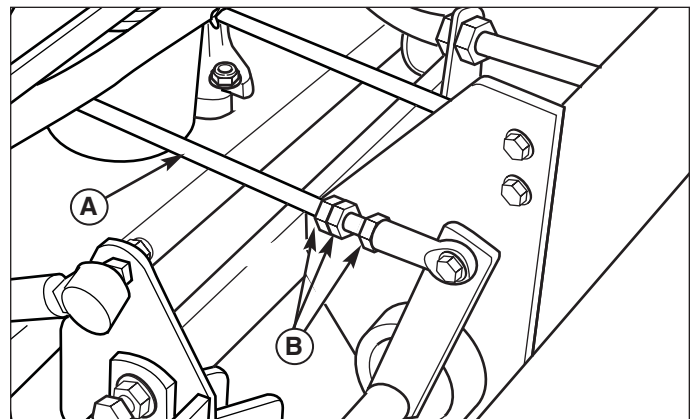

Figure 31. Neutral Adjustment (RH side shown)
2. There are three nuts (B, Figure 31) on the linkage rod. The first two are to be used together to turn the rod and the third (towards the front of the machine) is used to lock the rod in place. Loosen the jam nut that locks against the ball joint (B) and turn the linkage rod (A) to adjust. If the machine creeps forward, turn the rod CLOCKWISE (while standing at the rear of the machine, facing forward), if the machine creeps backward, turn the rod COUNTER-CLOCKWISE.
3. Lock the jam nut (B) against the ball joint when neutral is achieved.